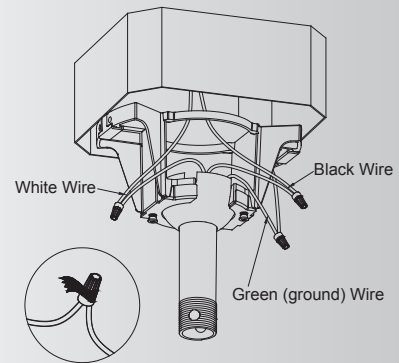

Fig. 12
Step 1. Connect the GREEN grounding leads to the grounding conductor of supply (this may be a bare wire or wire with green colored insulation). Securely connect wires with wire connector supplied. (Fig. 12)
Step 2. Securely connect the fan WHITE wire to the supply WHITE wire using wire connector supplied. Securely connect the fan BLACK wire to the supply BLACK wire using wire connector supplied. (Fig. 12)